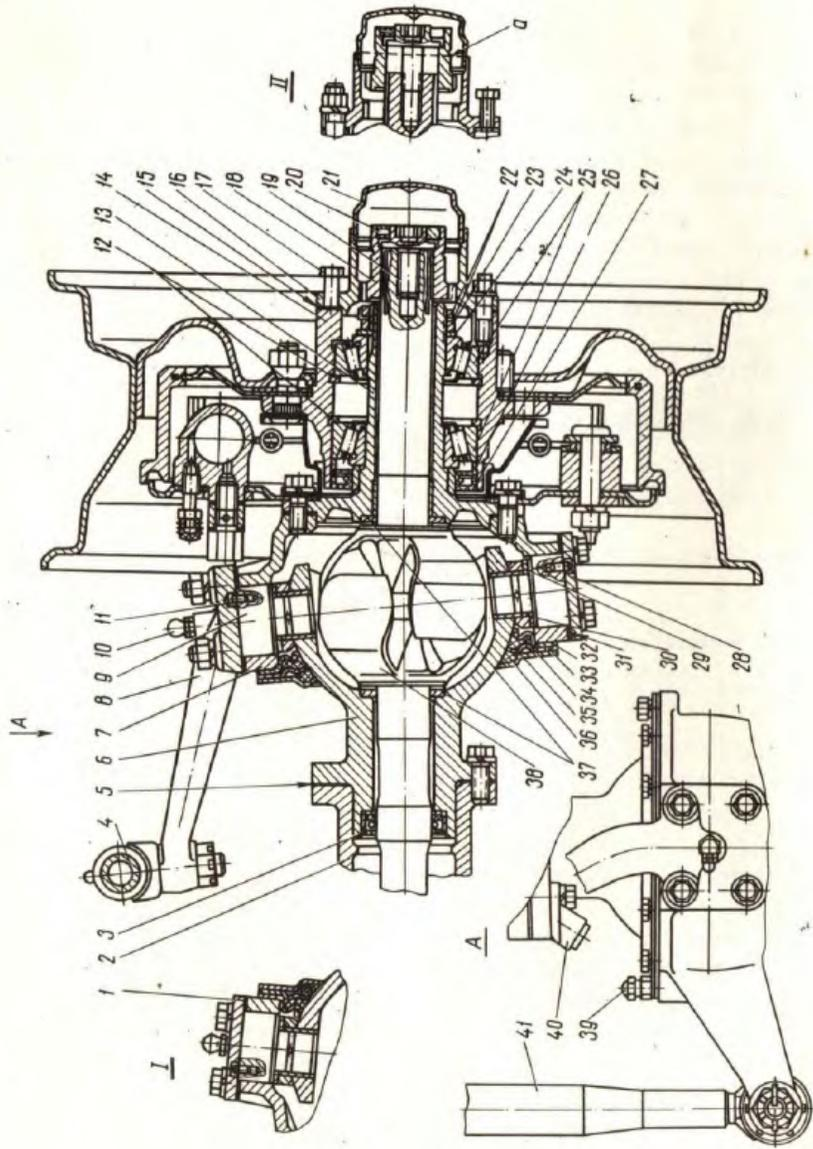
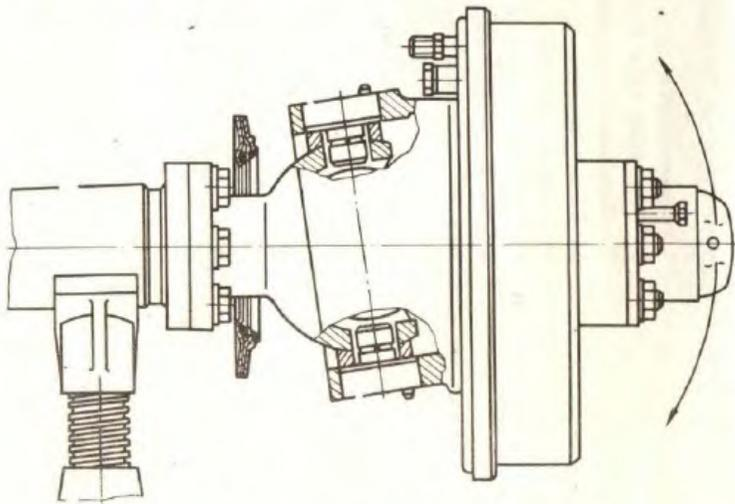

Fig. 37. Steering Knuckle (YA3-452, YA3-452A, YA3-452A, YA3-452B):
Fig. 38. Checking Knuckle Up and Down Play
The final drive and differential are similar to those in the rear axle. The construction of the steering knuckle is shown in Fig. 37.
If the steering knuckles have up-and-down play (Fig.38), adjustment should be made by removing the required number of shims 31 (Fig.37). To avoid disturbing knuckle alignment, be sure to remove the same number of shims at top and bottom.
2. Take out the axle shaft (on the rear axle). Remove the driving flange and wheel coupling (on the front axle). The removal is facilitated by the use of two puller bolts 17 (Fig.37).Turning the bolts in forces off the axle shaft or driving flange.